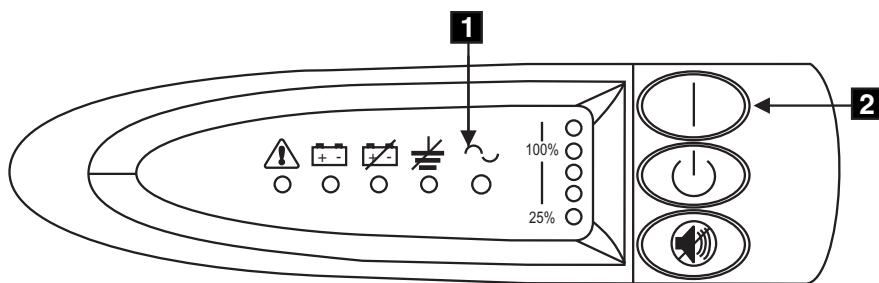

Figure 112. Power switch and indicators on the 2145 uninterruptible power supply
10. All front panel indicators of the 2145 uninterruptible power supply flash for a short time while the 2145 uninterruptible power supply runs a self-test. When the test is complete, the mode indicator **1** flashes to show that the 2145 uninterruptible power supply is in standby mode; see Figure 112.
Press and hold the 2145 uninterruptible power supply On button, **2** in Figure 112, until you hear the 2145 uninterruptible power supply beep (approximately one second). The mode indicator stops flashing and the load-level indicators display the percentage of load that is being supplied by the 2145 uninterruptible power supply. The 2145 uninterruptible power supply is now in normal mode and is charging its battery.